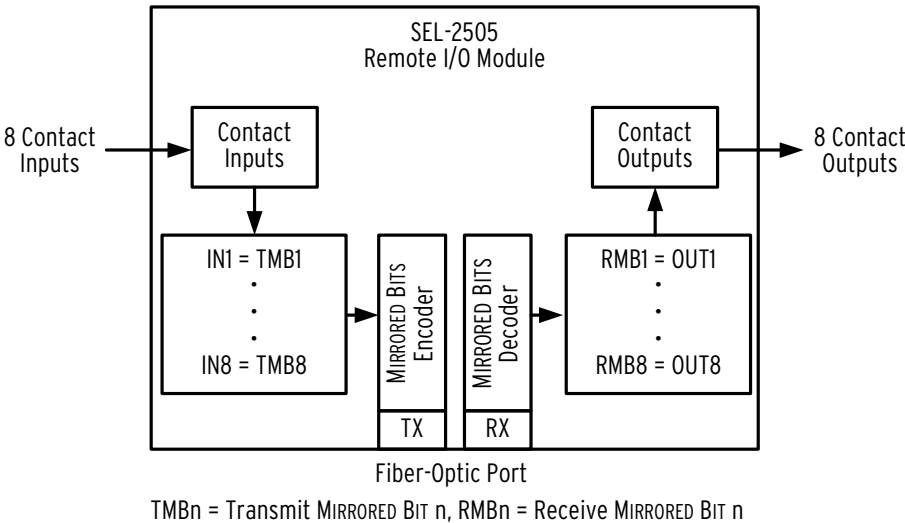

Figure 7 SEL-2505 Functional Block Diagram.
Figure 7 shows the functional block diagram of the SEL-2505. There is a MIRRORED BIT decoder associated with the receive (RX) port and an encoder for the transmit (TX) port. The decoder receives MIRRORED BIT messages, checks that the receive address matches that set by SW3–4, checks for data message errors, and then decodes each message. If a Receive MIRRORED BIT (RMB) is a logical one for the number of message frames set by SW5–8, the SEL-2505 asserts the corresponding output contact.